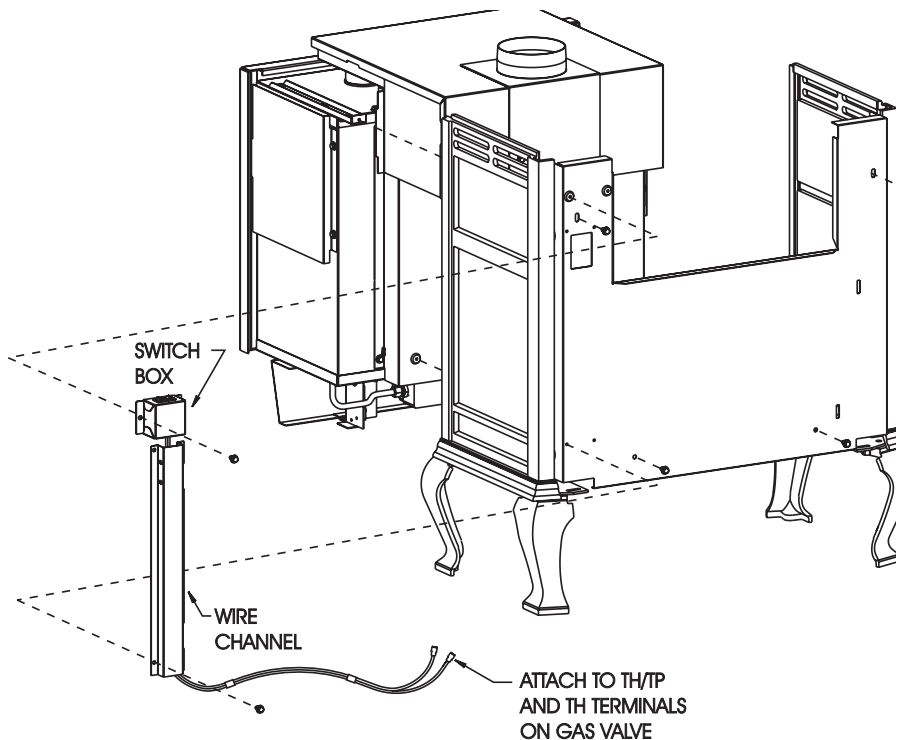

Figure 12
- F. Attaching firebox to rear cover (Figure 12).
15. Refer to Figure 12, align (4) clearance holes on rear cover with screw holes in (2) upper mounting brackets and diverter back assembly. Attach firebox to rear cover with (4) 10 x 1/2" screws.